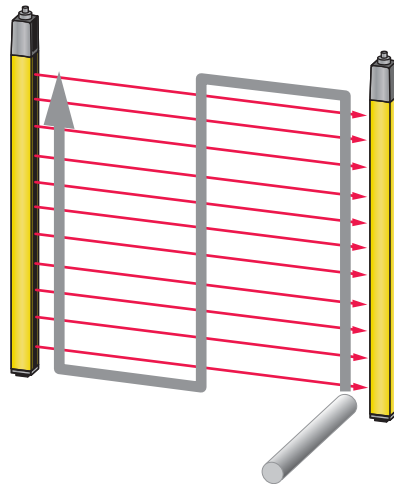

Figure 9.1: Checking the protective field function with test rod (only for safety light curtains with a resolution of 14 to 40 mm)
↪ During operation, interrupt an active light beam with a test object provided for this purpose (see figure 9.1). Is the dangerous movement shut down immediately?
- ↪ Interrupt all light beams at different distances from the transmitter and receiver with the test rod from a position outside the danger zone (see figure 9.1) and ensure that the machine cannot be started with an interrupted light beam.